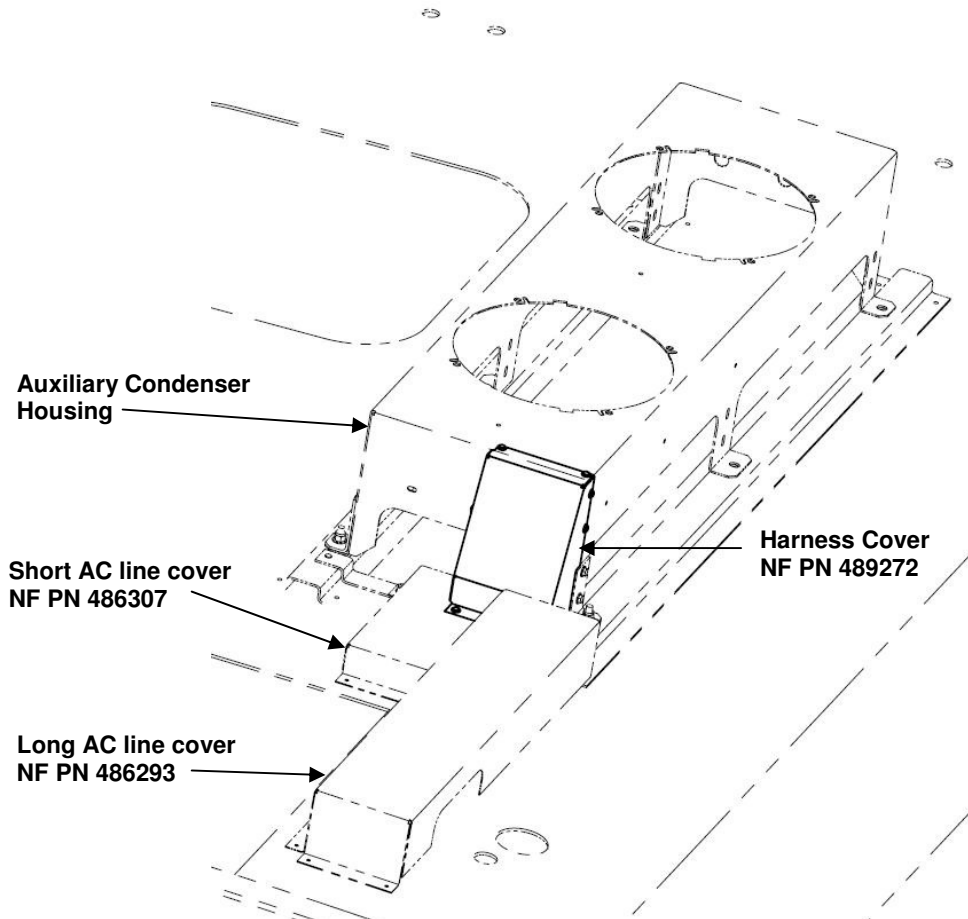

Figure 8: AC Line Covers Installation – Harness Cover Installed
- l. Place the harness cover (NF PN 489272) on the rear face of the auxiliary condenser, aligning the top and curbside faces as shown in Figure 8.